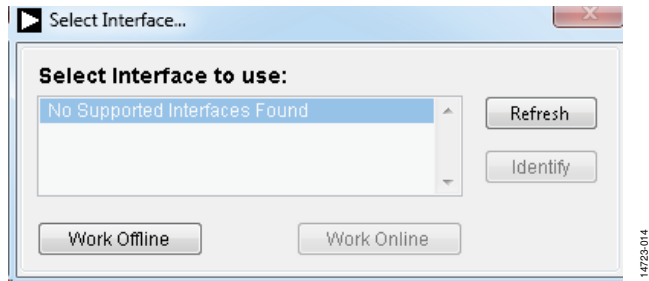

Figure 14. Connectivity Error Alert
2. If the EVAL-AD7616SDZ evaluation board is not connected to the USB port via the EVAL-SDP-CB1Z when the software is launched, a connectivity error displays (see Figure 14). Connect the EVAL-AD7616SDZ and EVAL-SDP-CB1Z to the USB port of the PC and wait a few seconds, then click **Refresh** and follow the instructions.